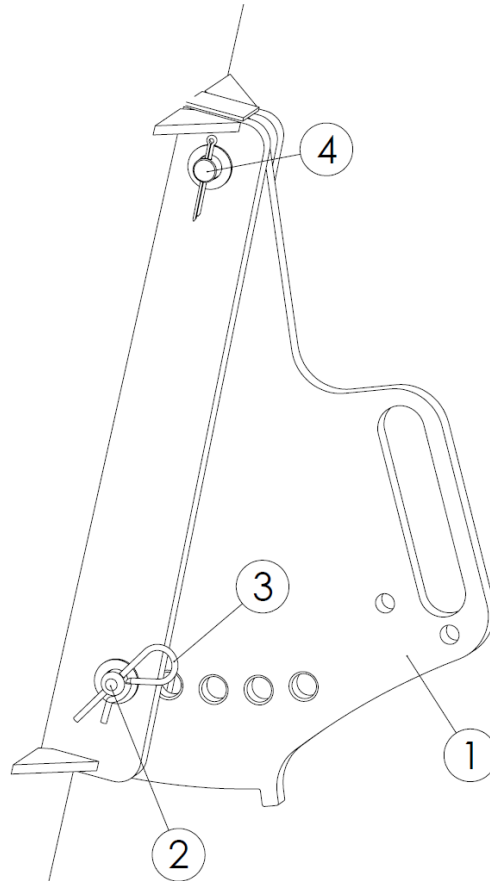

Figure 41. Manual counterblade: 1 - counterblade, 2 - bottom pin, 3 - cotter pin, 4 - top pin
To insert/remove the counterblade, remove the pin (2) secured by the cotter pin (3) and move it to the desired position. The same operation is carried out for both counterblades. If the feeder wagon is equipped with a hydraulic counterblade (Fig. 41), the system is controlled from the platform level using a lever (5). A hydraulic cylinder (4), attached to the tank at the bottom and bolted to the counterblade at the top with fastening elements (2), is responsible for retraction and extension of the blade.